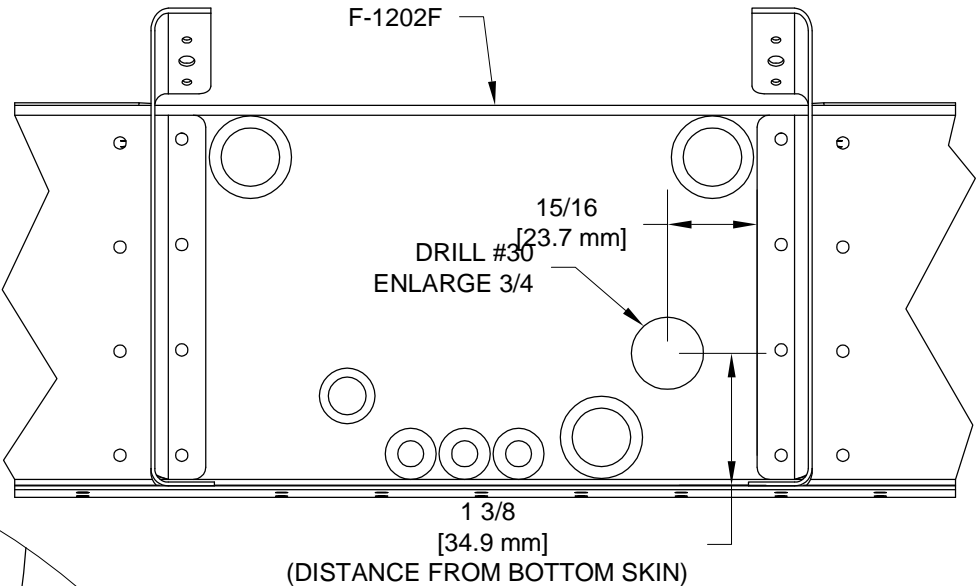

FIGURE 3: UPDATING THE F-1202F BULKHEAD
Step 2: Drill #30 a pilot hole in F-1202F Bulkhead using the dimensions given in Figure 3.